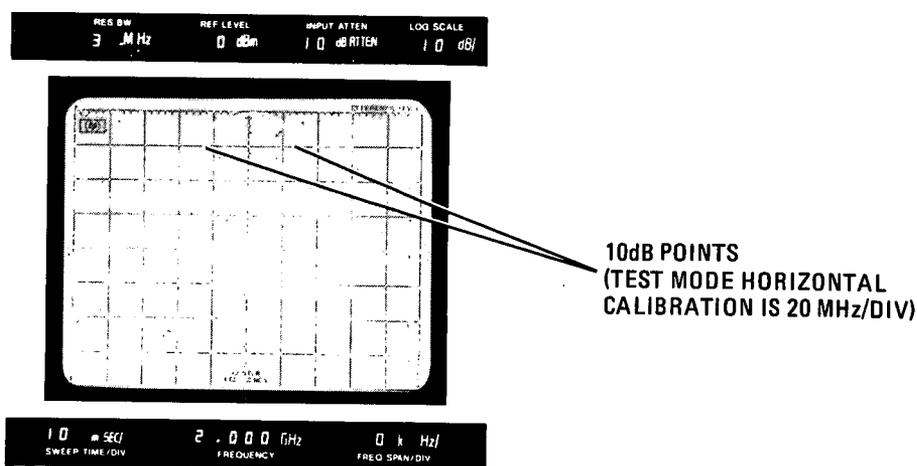

Figure 5-33. YTF Passband Display for YIG Driver Adjustment
- l. Adjust A19R14 YTF OFFSET to center passband on CRT display (Figure 5-33).
- n. Adjust A19R17 YTF GAIN to center passband on CRT display (Figure 5-33).